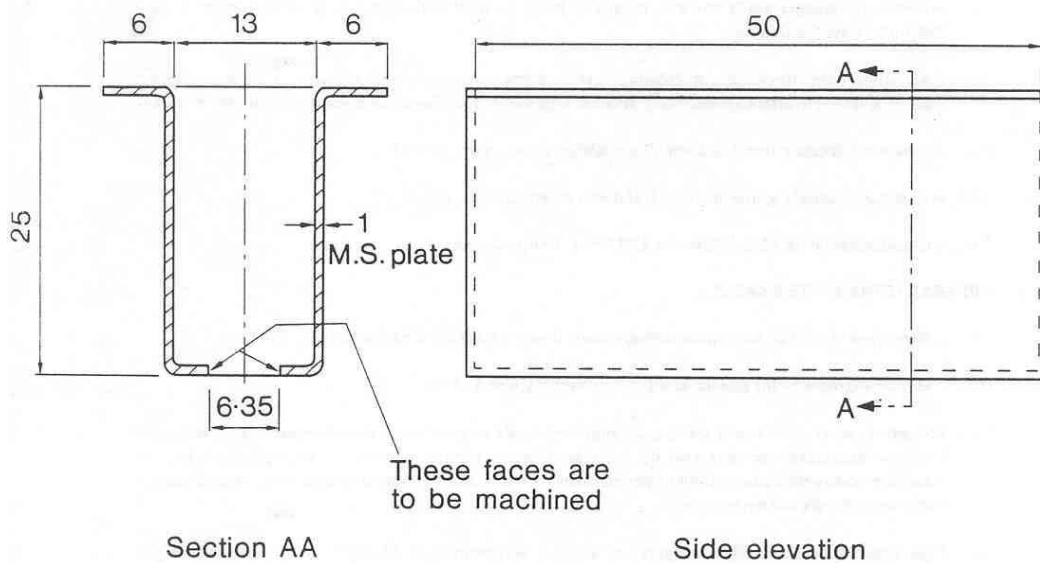

Figure 1: Mould for testing the flow properties of Hot Poured Joint Sealing Compound Test Method No. T1171
- (a) Three open top moulds of 1 mm mild steel sheet, having internal dimensions 50 mm long by 25 mm deep by 13 mm wide, with a tolerance of ± 0.25 mm on each dimension. The top of the mould is provided with a flange on either side as shown in Fig.1.